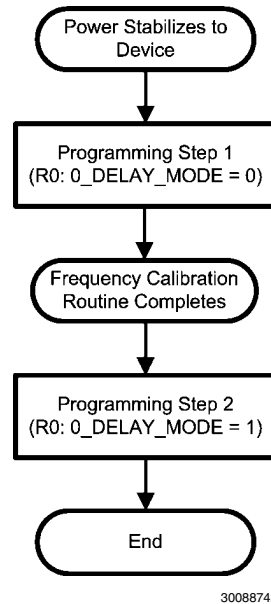

FIGURE 5. Outline of 0-delay mode programming sequence
*Figure 5* illustrates the 0-delay mode programming sequence. More detail is in section *2.2 Recommended Programming Sequence, with 0-Delay Mode*